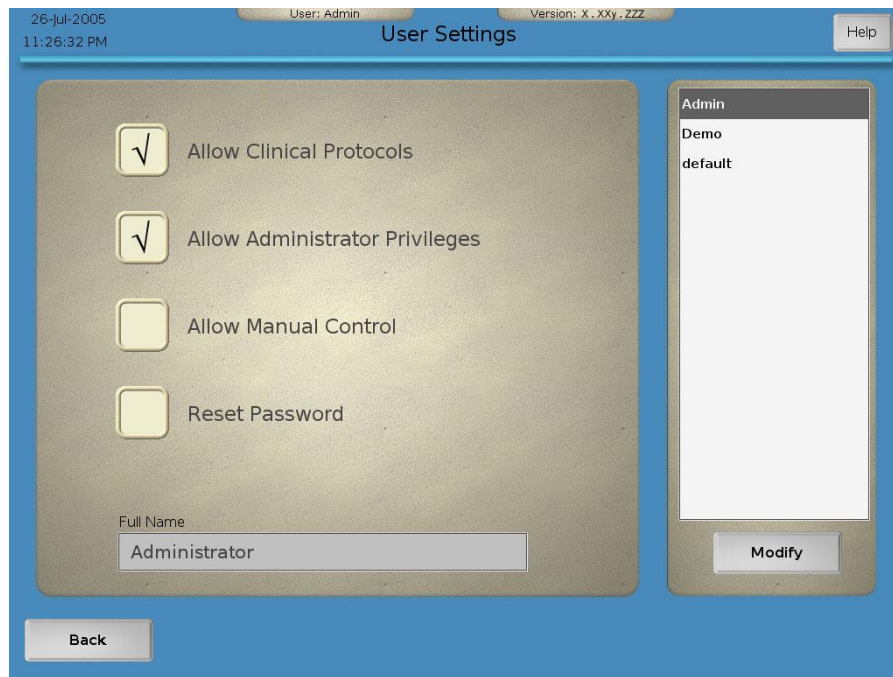

Figure 3-43. User Settings screen
1. Select a user from the menu on the right side of the screen, and press on the user name (Figure 3-43). That person's name appears in the Full Name data field on the bottom of the screen.